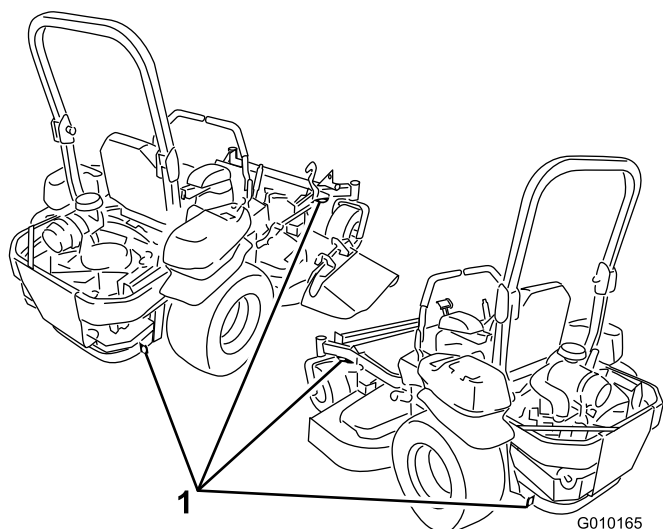

Figure 37
5. Use the metal tie down loops on the machine to securely fasten the machine to the trailer or truck with straps, chains, cable, or ropes (Figure 37).